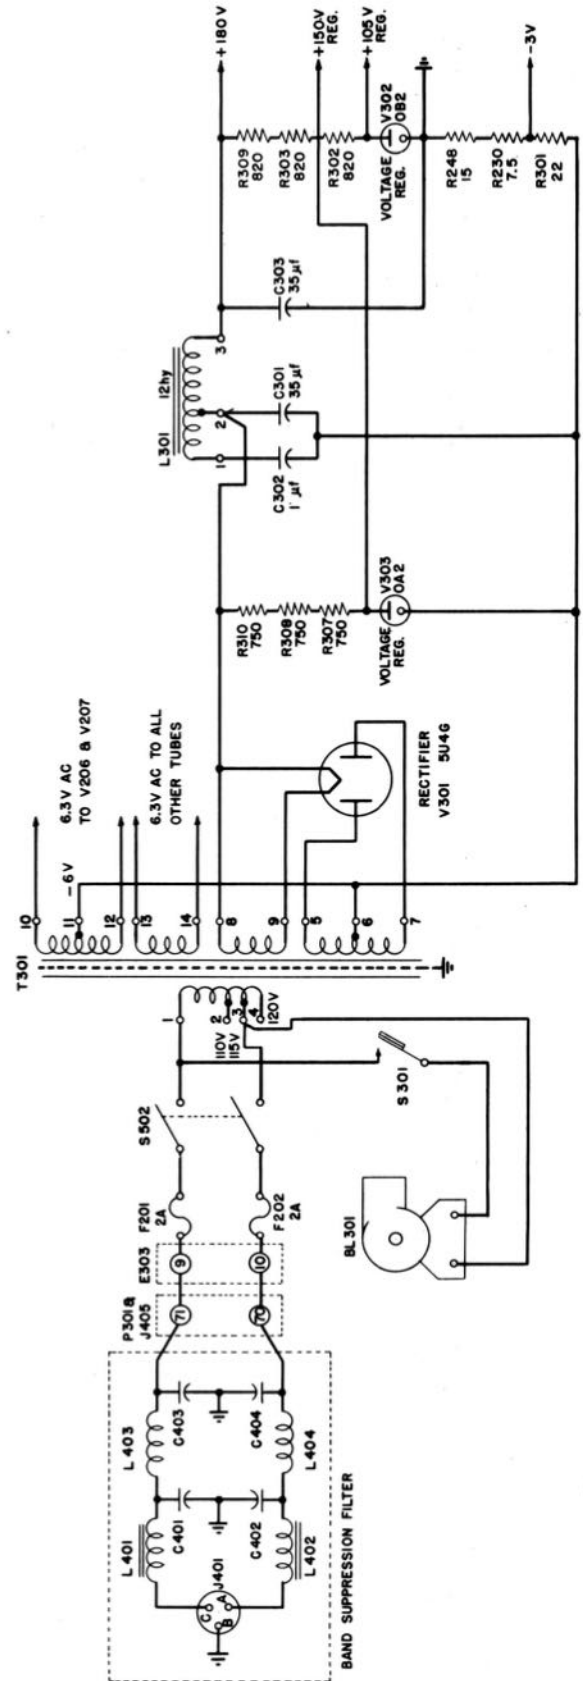
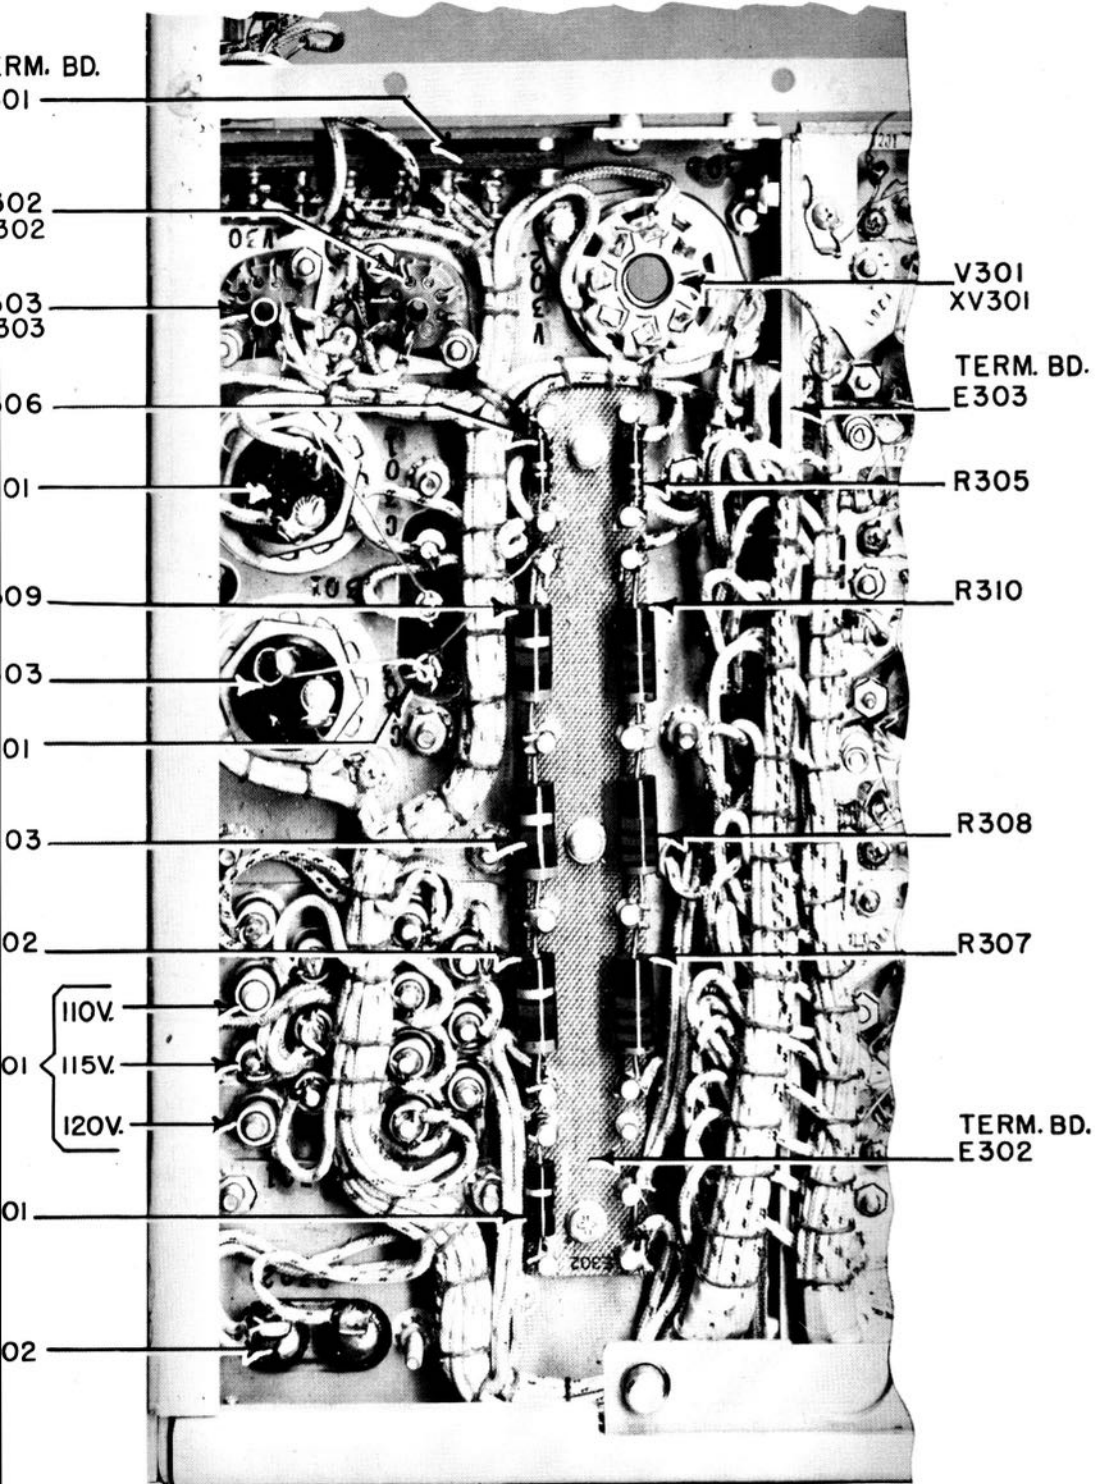

Figure 2-14. Simplified Schematic—Power Supply Section
Figure 2-15. Underside of Power Supply Section
c. POWER SUPPLY. A single power transformer (T301) supplies heater power for all tubes and, after rectification, high voltage d.c. for plates and screens, as well as a small negative voltage used for bias. See the power supply explanatory schematic diagram, figure 2-14, and the photograph, figure 2-15.
The power input receptacle (J401) is wired to the primary of power transformer T301 through the band suppression filter. The primary of this transformer is tapped to permit operation of the receiver from a 60 cps power source of 110, 115 or 120 volts potential (see figures 2-15 and 2-14). Terminals 1 and 2 should be used for a 110-volt input, terminals 1 and 3 for a 115-volt input and terminals 1 and 4 for 120-volts. In the equipment, as shipped, this transformer is wired for 115-volt operation.